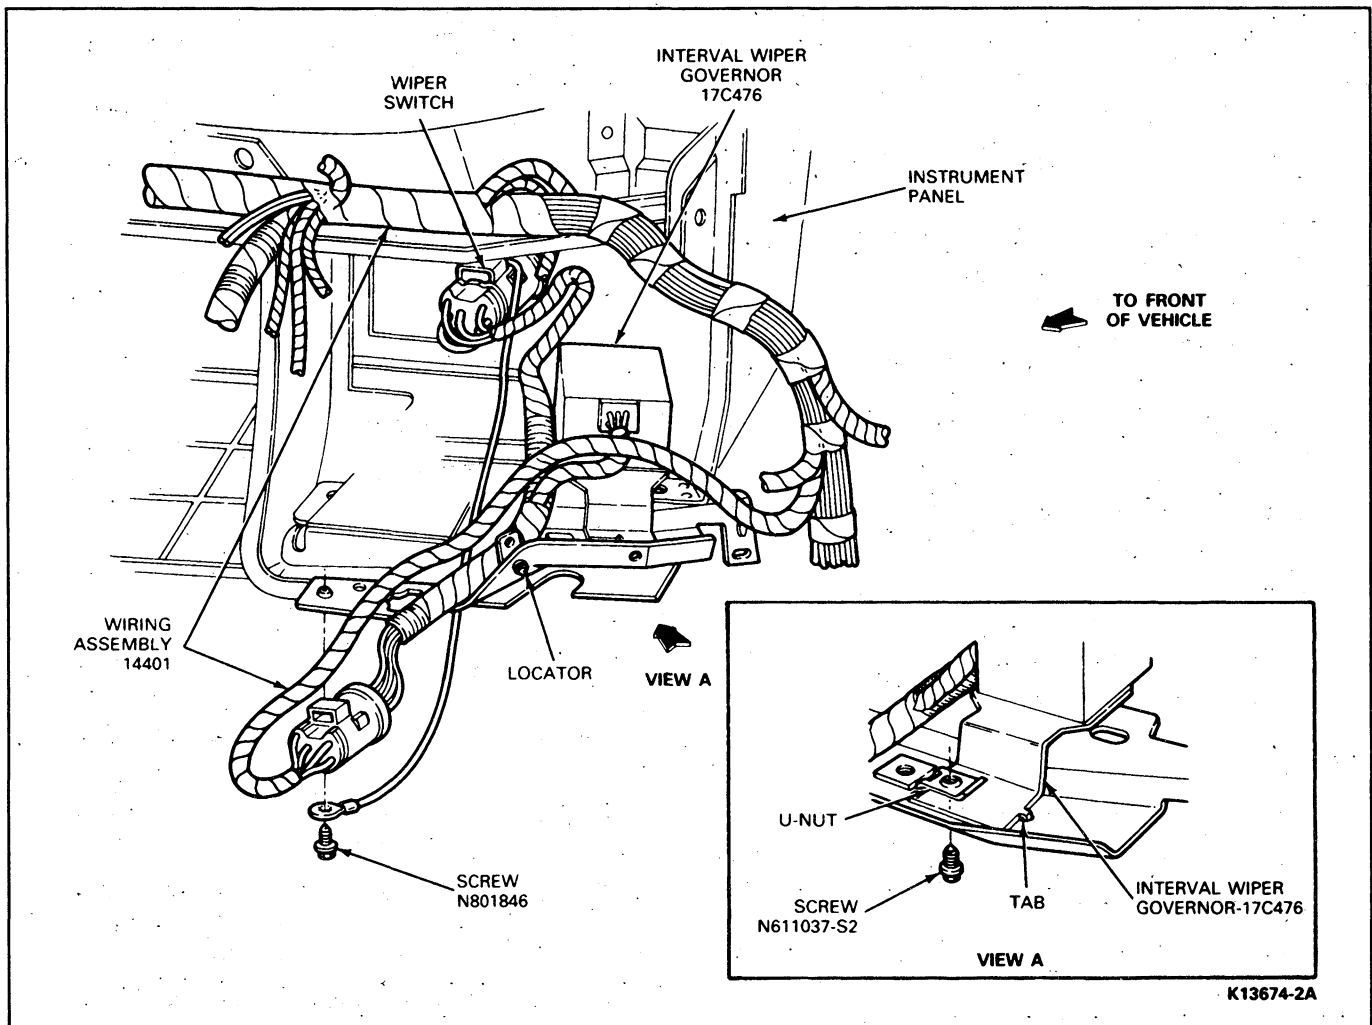

FIG. 16 Windshield Wiper Interval Governor—Typical (F-Series and Bronco Shown)
2. Remove the governor attaching screw (Fig. 16), and remove the governor.